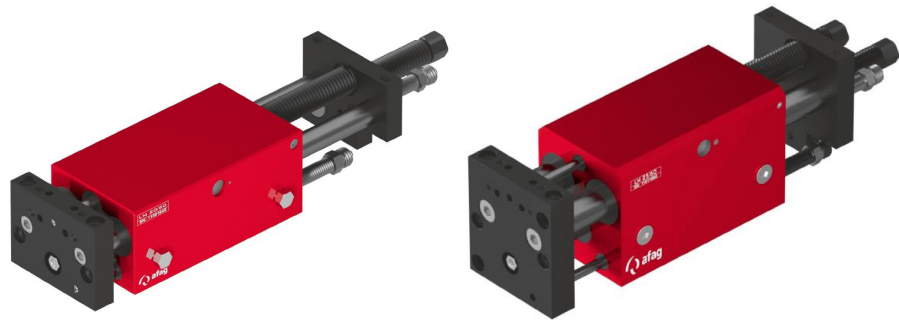

Fig. 21 Maintenance on linear module LM 20 or LM 25
1. Lubricate ball bush (14) with lubricant "Blasolube 301".
2. Press the ball bush into the base body (Fig. 21, 1) from two sides.